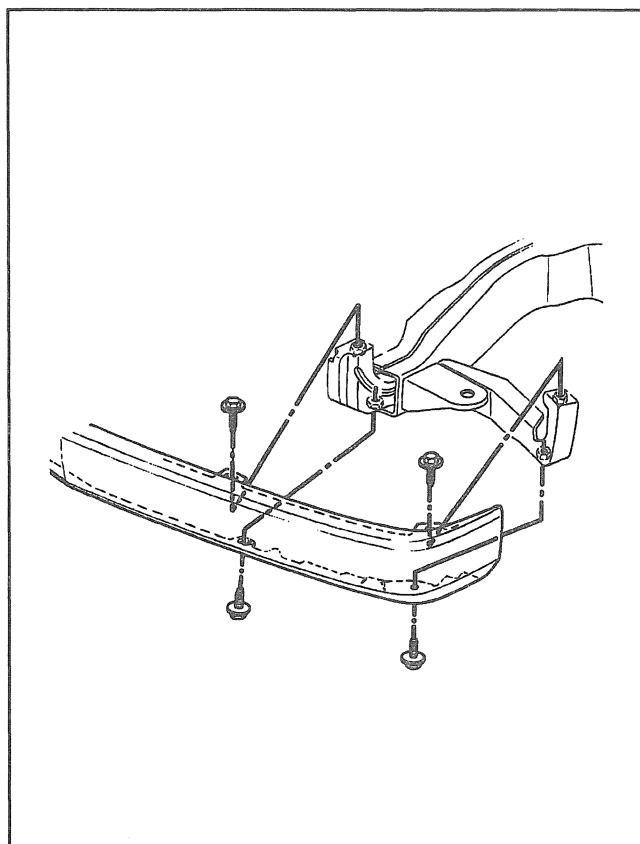

Figure 4—Front Bumper
↔ Remove or Disconnect (Figures 4 and 5)
2. Bumper to brace bolts and washers (Figure 4).
Install or Connect (Figures 4 and 5)